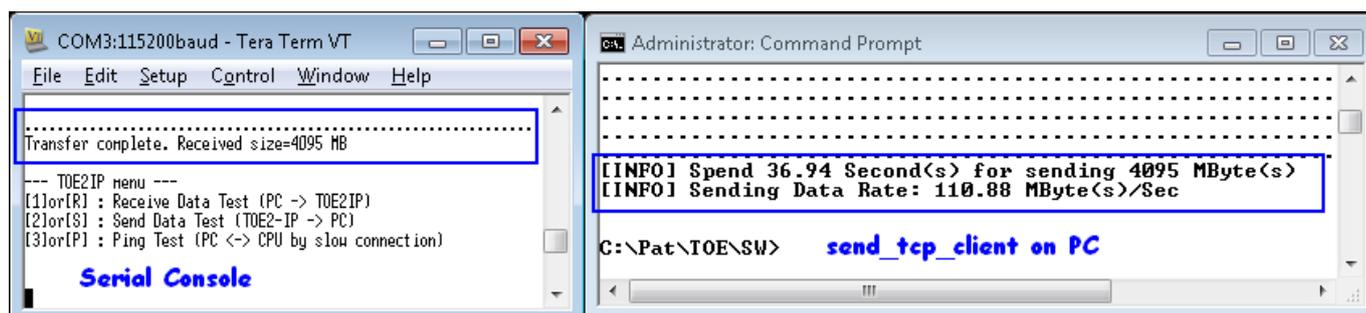

Figure 13 Test Result when transfer size is more than 512 MB
(3) If total transfer size is more than 512 MB (Packet Count > 32768) which is buffer size in the demo, the menu to select data verification will not be displayed on Serial console. Transfer performance will be displayed on the PC while Serial console shows total transfer size, as shown in Figure 13.